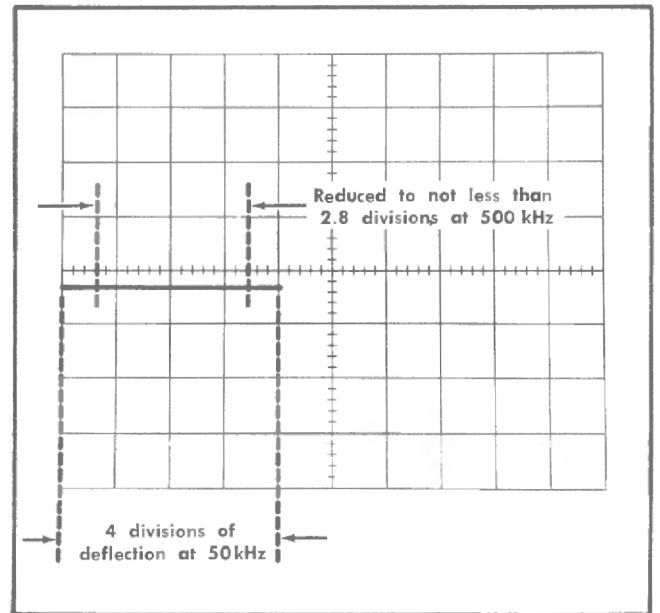

Fig. 6-55. Typical CRT display when checking external horizontal frequency response.
- d. Without changing the output amplitude, increase the output frequency of the constant-amplitude generator until the display is reduced to 2.8 divisions (—3 dB point; see Fig. 6-55).